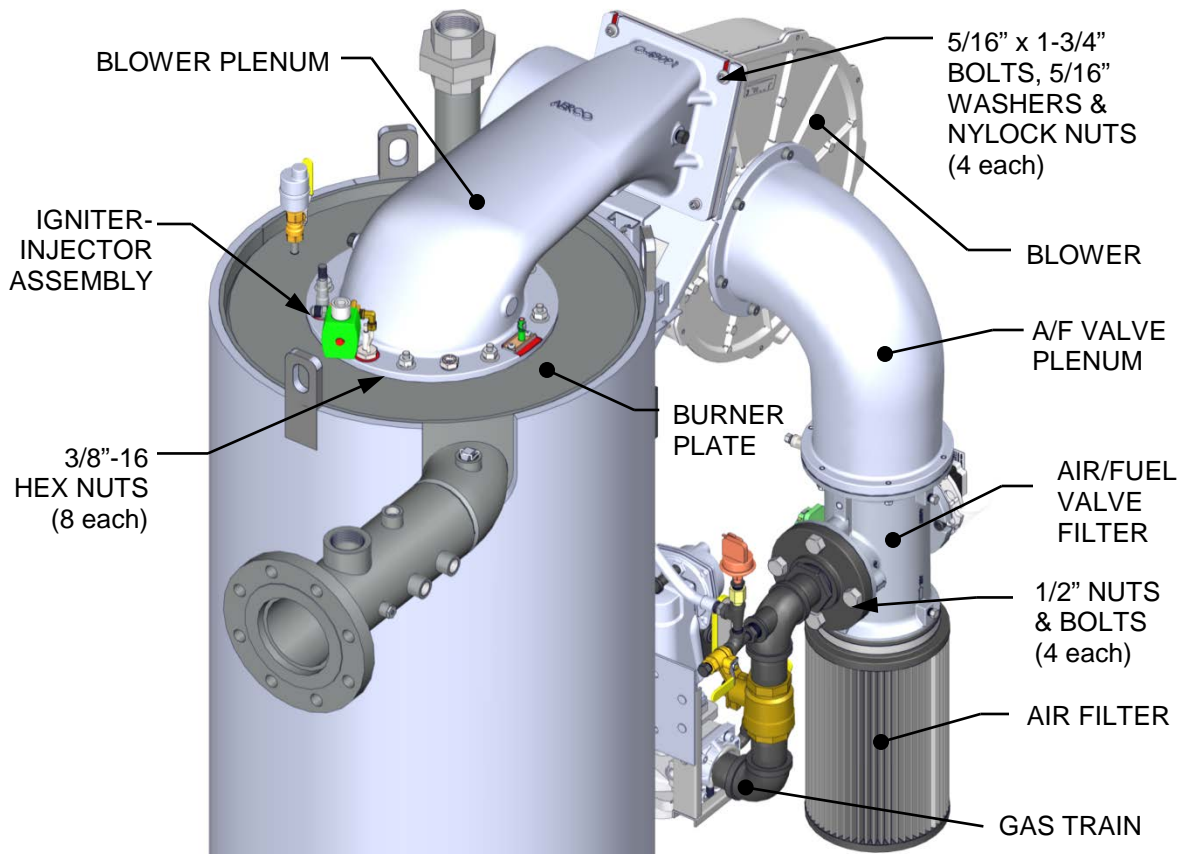

Figure 7-4a: Burner Assembly Mounting Details
9. Loosen and remove the four 5/16x1-3/4" bolts, washers, and nuts from the blower plenum where it is attached to the blower (see Figure 7-4a & 7-4b).
11. Remove the eight (8) 3/8-16 nuts attaching the blower plenum to the burner (see Figure 7-4a & 7-4b).